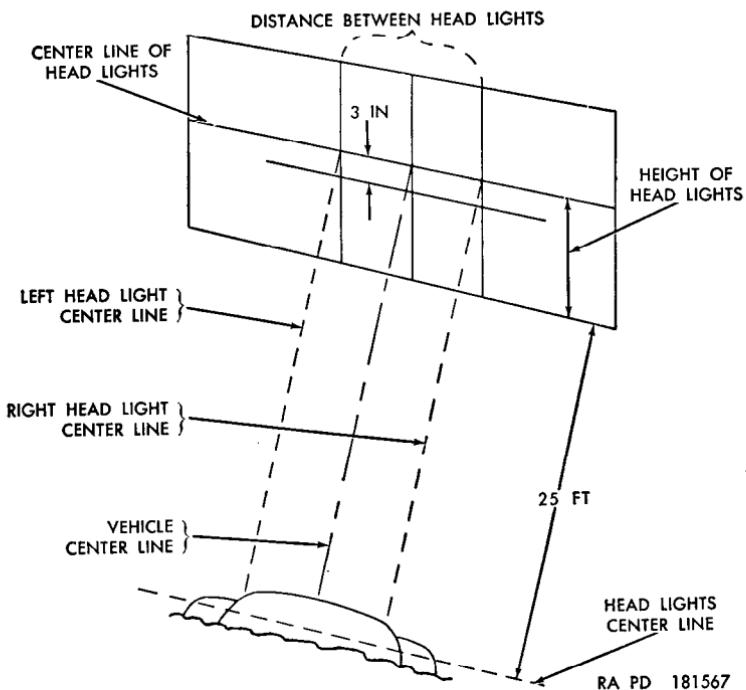
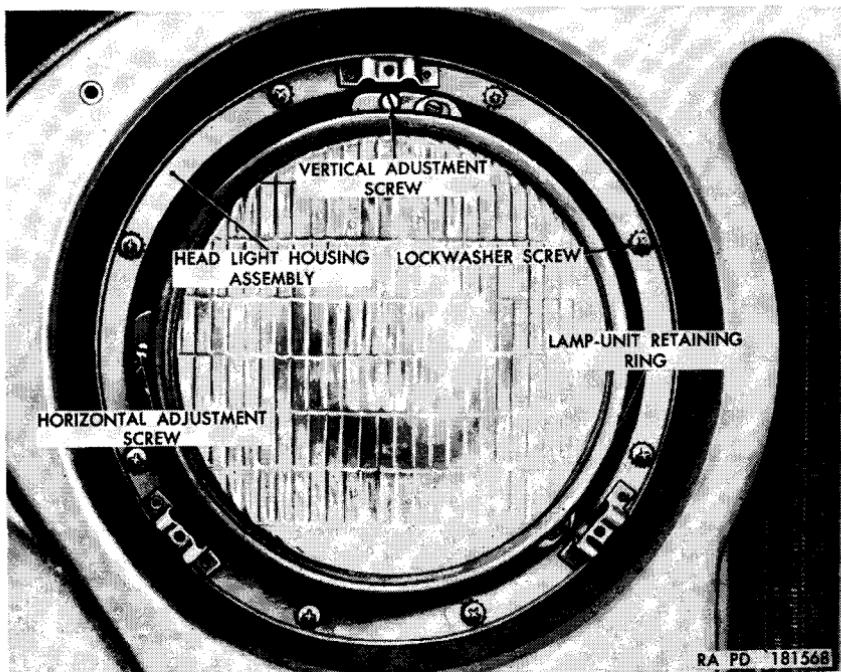
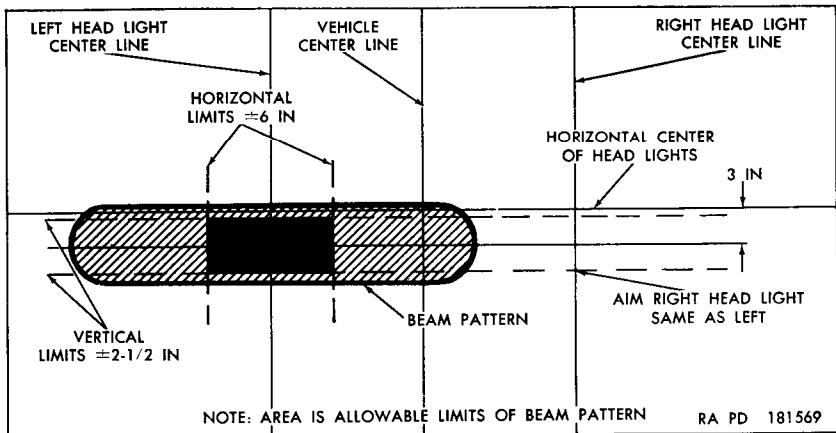

Figure 71. Headlight aiming chart.
Figure 72. Headlight adjustment screws.
Figure 73. Headlight beam pattern.
b. Headlight Adjustment. Place the vehicle on a level surface and arrange a wall target as shown in figure 71. Remove the headlight guard and door assembly (*a(1)* above). Cover headlight not being adjusted. Turn on the headlights (par. 33) and be sure that the high beam is on (par. 40). Aim the headlight by turning the adjustment screws (fig. 72), as required, until the headlight beam conforms with the headlight beam pattern (fig. 73). Turn off the headlights. Install the door and guard (*b(2)* above).
- (1) Remove the headlight sealed lamp-unit (*a(1)* above).